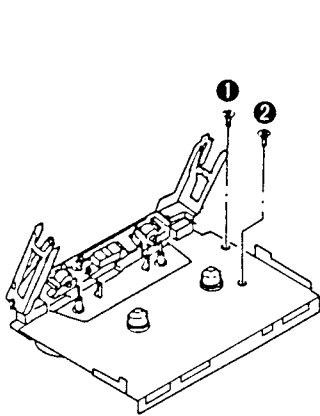

Fig. 1
2. Remove the 2 screws (❶, ❷). (Refer to Fig. 1.)